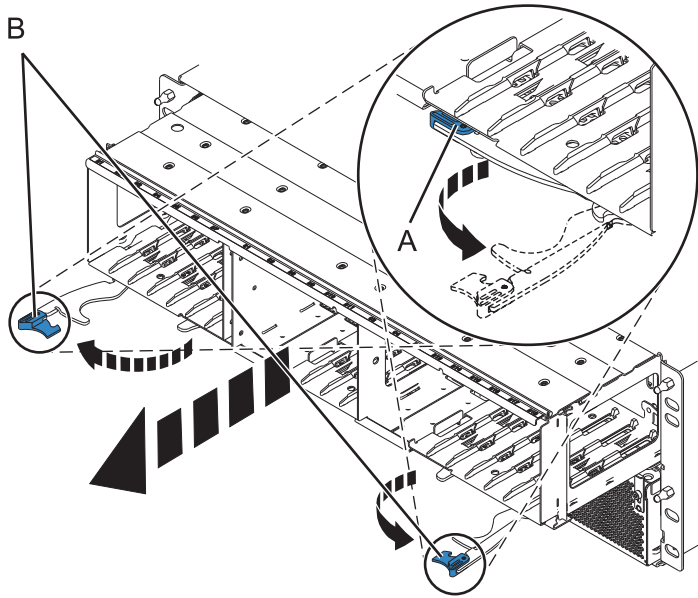
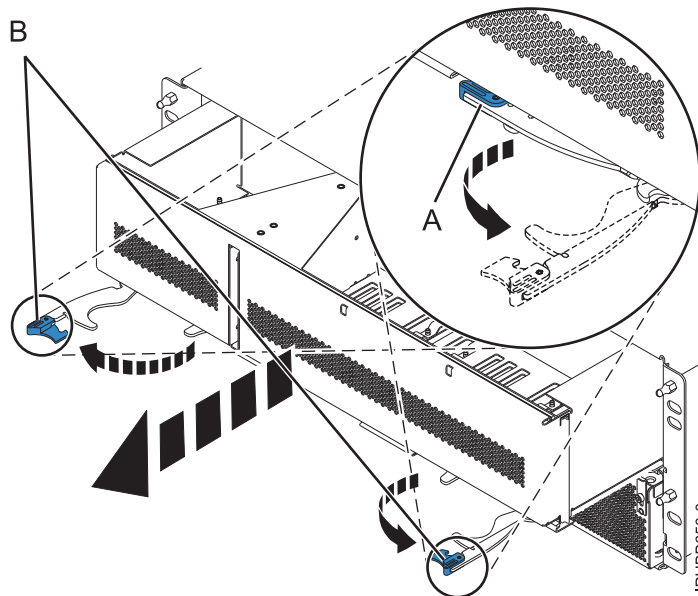

Figure 3. Removing the disk drive backplane from the enclosure
Figure 4. Removing the backplane filler from the enclosure
10. Remove the disk drive backplane from the 5802 expansion unit as shown in Figure 3 on page 5, or remove the backplane filler from the 5877 expansion unit as shown in Figure 4 on page 5.